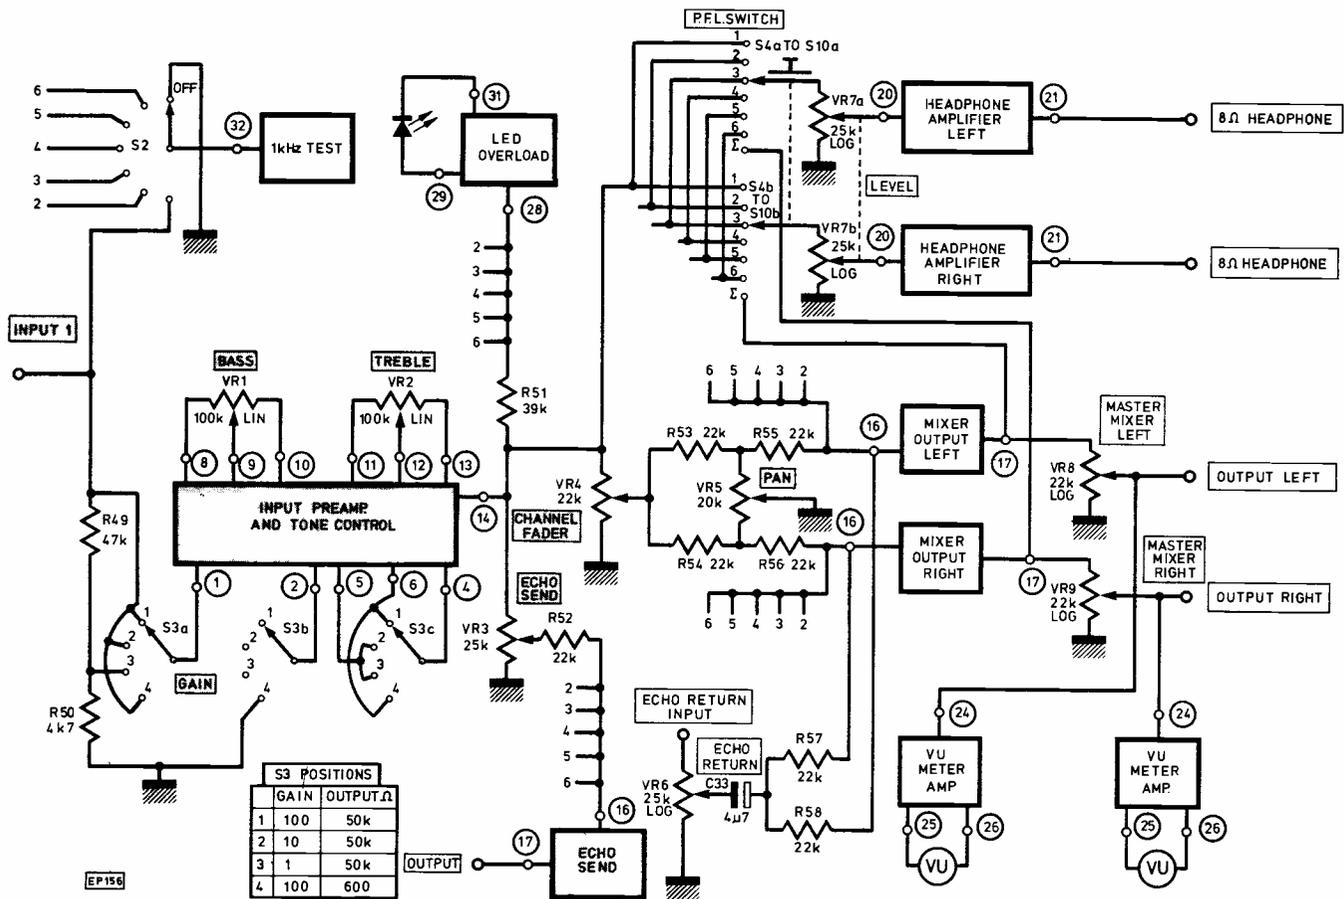

Fig. 1 Block diagram
The diagram (see Fig. 1) shows the unit in the basic six-channel configuration. The input channels are completely separate until linked on the pan buses via the pan pots. These buses are also fed by an additional stereo input (if required). This enables a separate stereo input or more input channels to be coupled in at a later date, into the output stages.
The design for this is the same as the output amplifier circuit. The inputs to this circuit are taken from the echo send pots on each channel through six 22 kilohm resistors to the input pin (16). The output is taken from the master echo capacitor—connected to pin (17)—to the echo send socket. The echo return signal is routed directly to the output channels via the Echo Return control and mixing network (see Fig. 1). As with the output channel amplifiers C12 and R22 provide power supply decoupling.